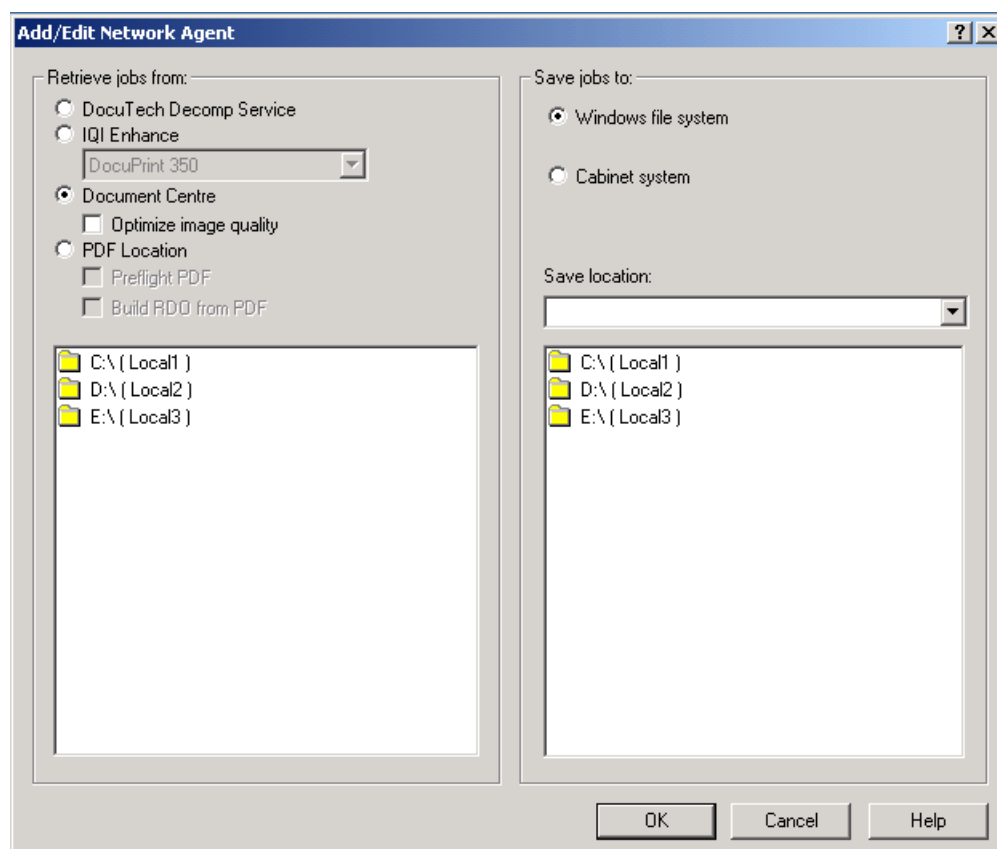

Figure 9-5. Add/Edit Network Agent dialog box
5. Select [Add] to add a new network agent queue for the Document Centre. The Add/Edit Network Agent dialog box opens. See Figure 9-5.